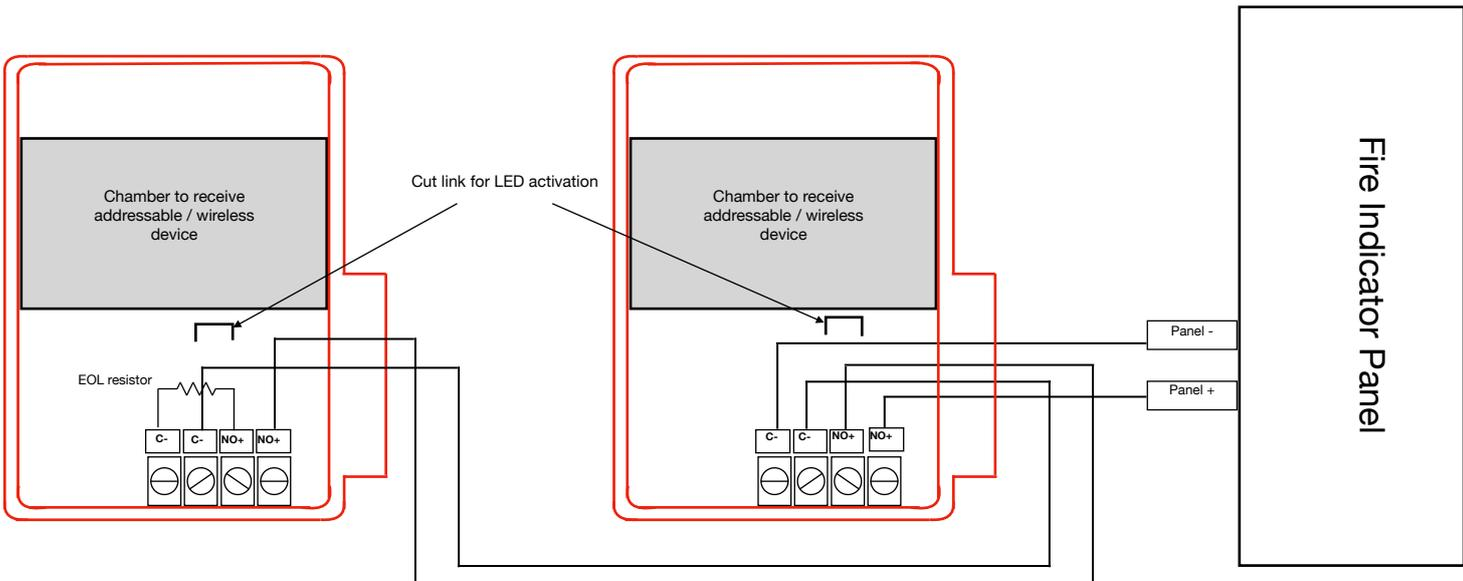

Fig 6: Electrical Wiring for Amtron LED indicating valve monitor models 502X & 514X.
- LED models (502X & 514X) are supplied as a dry contact (NON-LED) model - No power needed to drive monitoring. To ACTIVATE THE LED - Cut the LED circuit link on top of the black compound within the Amtron Valve Monitoring Device. See Fig 6.